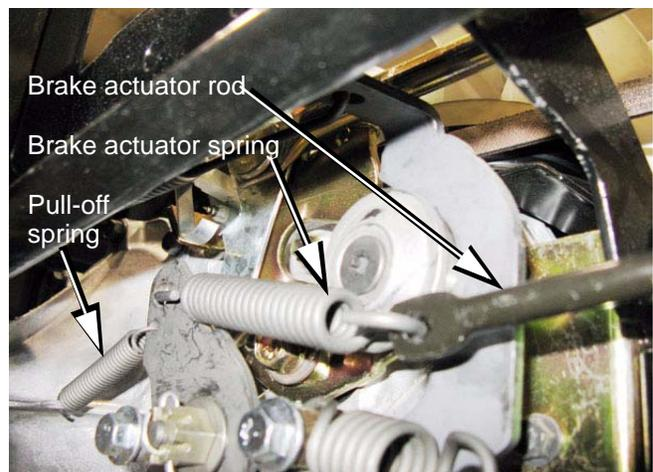

Figure 5.15
- The rod that connects the clutch/brake latch plate to the heavy brake actuator spring should be slack. See Figure 5.15.